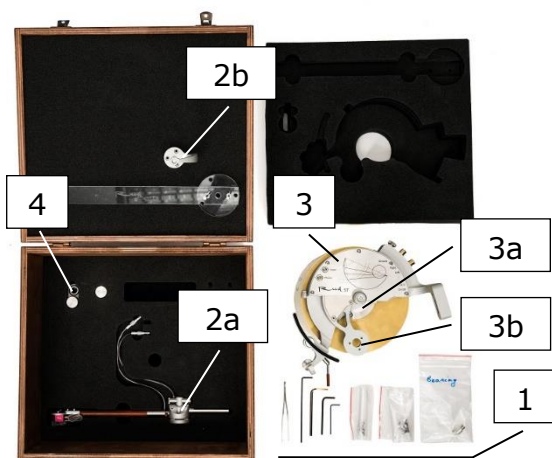
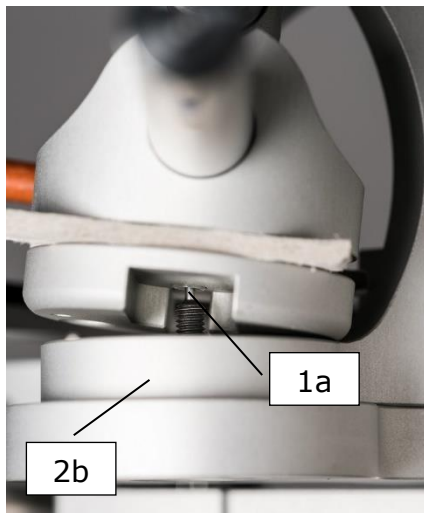
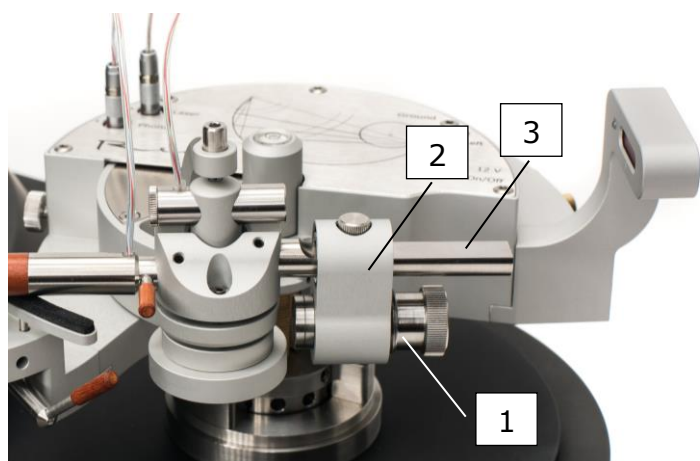

Figure 3
Figure 9
Figure 14
- c) Take out the middle layer of packaging. Take out all the accessories [1], except pivoted armwand [2a] and a counterweight [4] (Figure 3).
Tonearm consists of *pivoted armwand [2a]*, *armwand base [2b]*, *tonearm body [3]*, *tonearm base [3a]* and *armwand base pad [3b]* (Figure 3).
- h) Take out the pivoted armwand [2a] (Figure 3) from its packaging and place it on the armwand base [2b]. Make sure that the bottom bearing of a vertical axis [1a] is in the right position (Figure 9).
- p) Unpack the counterweight [4] (Figure 3). Take the required weight according to the cartridge settings (30 g or 45 g weight). Screw counterweight weight [1] out of the frame [2] until weight's frontal surface aligns with frame's surface (i.e. it should not stick from a frame) (Figure 14).
- r) Put counterweight frame [2] onto the holder [3] (Figure 14).